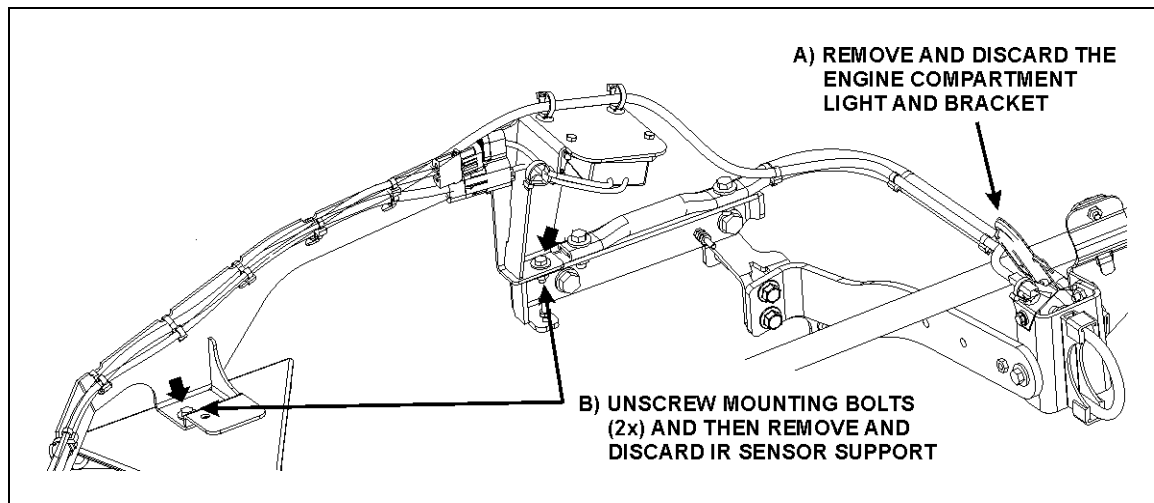

FIGURE 9
- 10) Remove the bolts from the engine compartment light and bracket (see figure 9, step A).
- 11) Remove the bolts from the IR sensor support (see figure 9, step B).